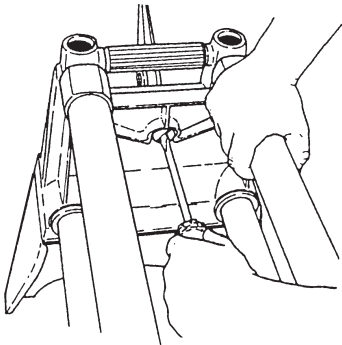

Figure 1
1. To check the Headrest Lock, grasp the Way Tubes near the Tie Bar and pull up, as demonstrated by the Right Hand in Figure 1.
2. If there is "give" in the Lock, unlock the Handle and use Medium Straight Blade Screwdriver to turn the Lock Shaft clockwise, as done by the Left Hand in Figure 1. If the Lock is difficult to operate, the Lock Shaft is too tight. To loosen, unlock the Handle and turn the Lock Shaft counterclockwise.